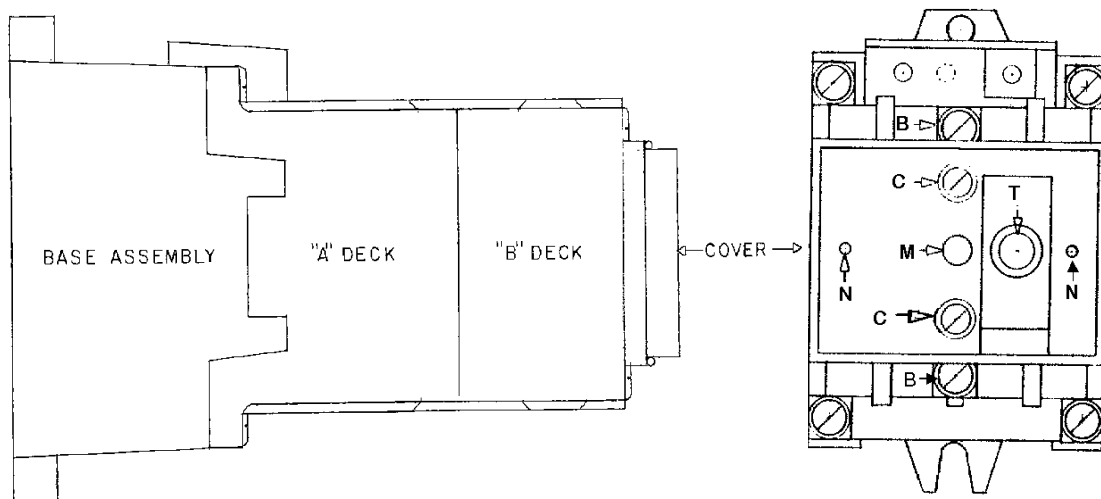
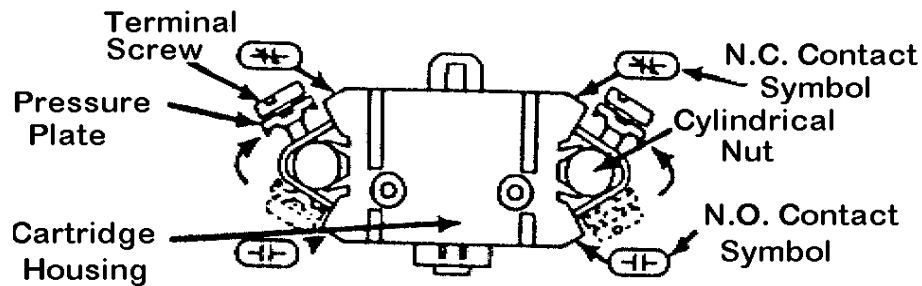

FIGURE 1. INTERNAL SIDE AND FRONT VIEW OF A 6 CONTACT RELAY ASSEMBLY
FIGURE 2. CONTACT CARTRIDGE
For testing purposes, the relay can also be operated manually by inserting a small probe (e.g. #2 Phillips screwdriver) through the center hole of the nameplate (M on Figure 1, page 7). Pushing in on this probe will move the armature, and thereby operate the contacts and target assembly (**note:** Not applicable on LJ32 or LJ33)
- 1) Using a 1/16" Allen wrench, remove and retain the two button head (4-40 X 1/4") nameplate retaining screws.(labeled N in Figure 1)
- 4) Remove the four(4) screws located at the corners of the case. These are on the terminal strip end of the case. Remove the relay from the case (**note:** On units with the seal-in option, you must first unscrew the collar from around the reset button)
- 5) Noting the orientation of the cover, use a 1/4" standard screwdriver to remove the two(2) screws(labeled C in Figure 1) which hold the cover in place. Remove cover.
6) Noting the location of the target magnet (T in Figure 1, page 7.), use a 1/4" screwdriver to back out the red cross bar screw (Figure 3, page 9) about one inch. Now rotate the red cross bar 90 degrees to provide access to the selected contact.
7) Locate the contact you wish to convert and remove the terminated leads from the terminals of the selected contact (refer to Figure 2). (**note:** On units with the electrical seal-in, you must first remove screw B (Figure 1, page 7) which holds the reset button in place. Move this assembly out of the way.)
8) Lift the contact cartridge out of its location. Turn the cartridge over and rotate the two cylindrical nuts (refer to Figure 2) to the required position (inserting the terminal screws a turn or two helps to facilitate this) in order to reassemble. Insert the cartridge back into its position. Verify the desired contact form by noting the N.C. or N.O. symbol on the contact. The symbol that is visible (facing upward) is the selected configuration.
- 7) Reassemble in the reverse order listed above. Take particular care when rewiring the relay to insure that all pairs of leads match up and go to the properly configured contact. If there is any question as to the proper wiring pattern, refer to Figure 5, page 10. **[note:** All decks are labeled near the contact wells as Axx, Bxx, or Cxx. When assembling make sure you assemble A first, then B, then, if it is a 10 contact relay, C deck. (refer to Figure 1, page 7)]